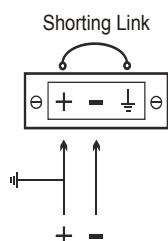

Figure 13-8 Shorting Link
- 1 For installations with +48V earthed a shorting link must be added (see Figure 13-8).